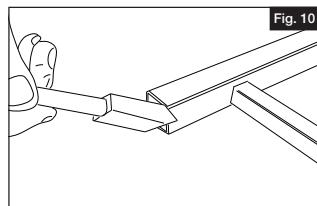

Fig. 10
- a. Test fit the rail panel. Once a proper fit is ensured all cuts must be painted prior to final installation (Fig. 10).